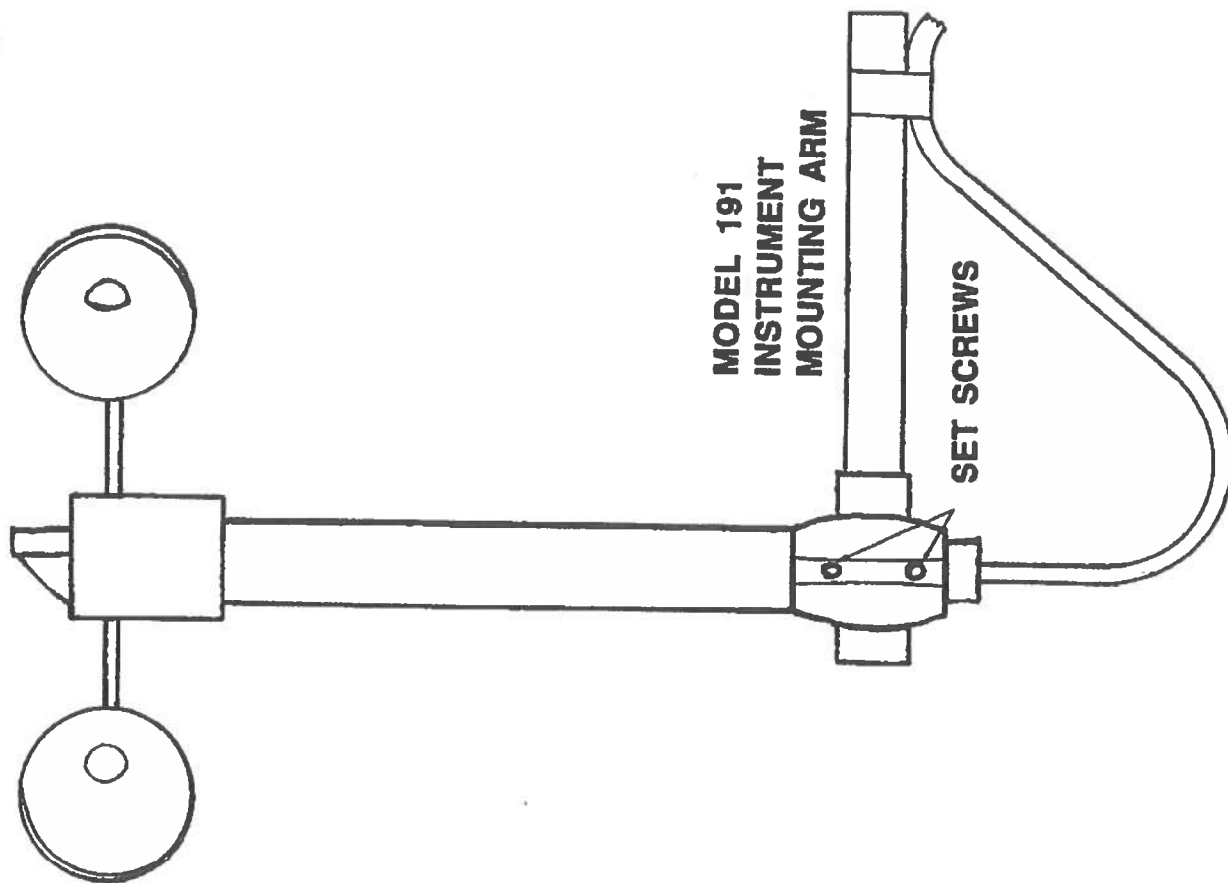

FIGURE 2-1
- B. Install the sensor into the fitting on the end of the 191 mounting arm. (THE END WITHOUT THE ALIGNMENT BUSHING) Install just deep enough to allow cable connection. (Reference the mounting detail in Figure 2-1).**